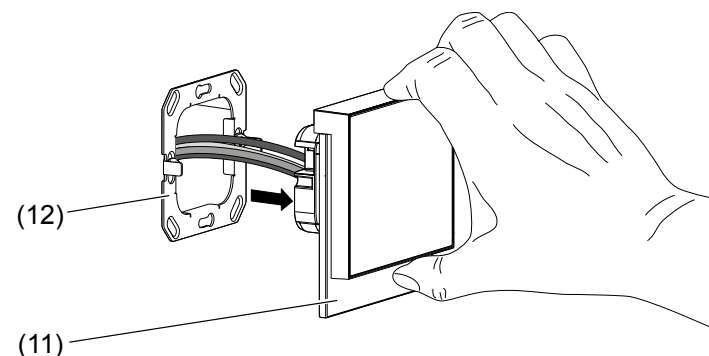

Figure 12: Dismantling
- Pull device out of wall box (Figure 12).
- i** The holding force of the clamping springs (16) must be overcome.
- Press fixtures for the design frame (15) inwards slightly and remove the design frame.